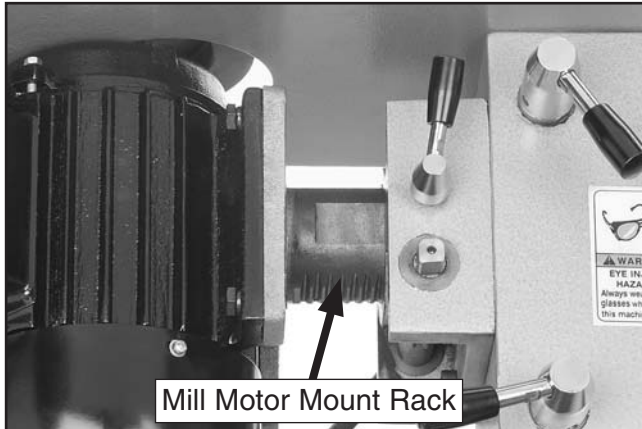

Figure 98. Mill motor mount rack.
12. Loosen the mill motor lock, then use the hand crank to extend the mill motor all the way to the left, as shown in **Figure 98**.